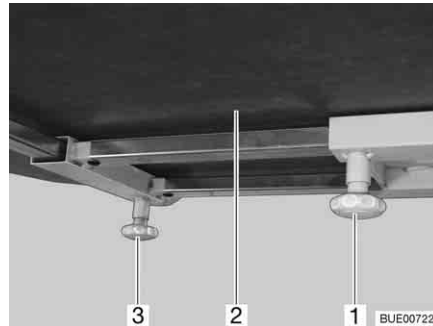

Fig. 102 Moving the table-top (alternative)
- Loosen knurled screw (Fig. 102,1).
- Push the table-top (Fig. 102,2) into the desired position.
- Loosen knurled screw (Fig. 102,3).